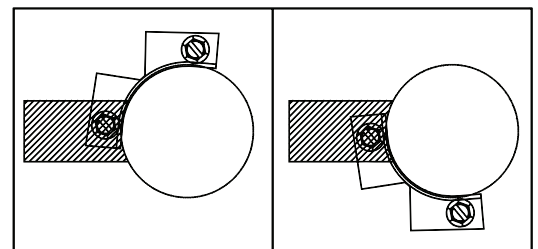

Figure 4
6. Optional Light Shield: The light shield may be mounted at virtually any angle. However, when deciding on a suitable location, the mounting screw head can not be in the shaded area of template. (See Figure 4 to view areas to avoid.)